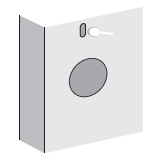

Figure 3b
- Drill the hole through door panel as marked for lock set (Figure 3b).